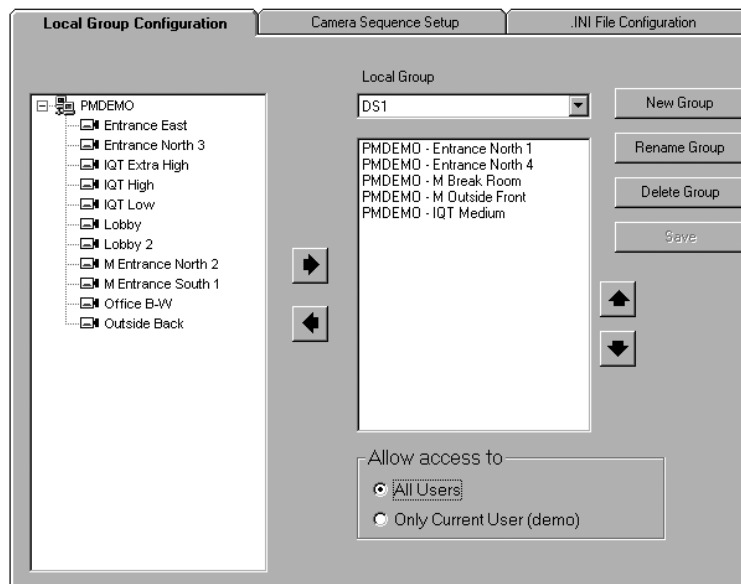

Figure 34. Local Group Configuration Tab
2. Click the Save Local Camera Group button, and select the Local Group Configuration tab (refer to Figure 34).